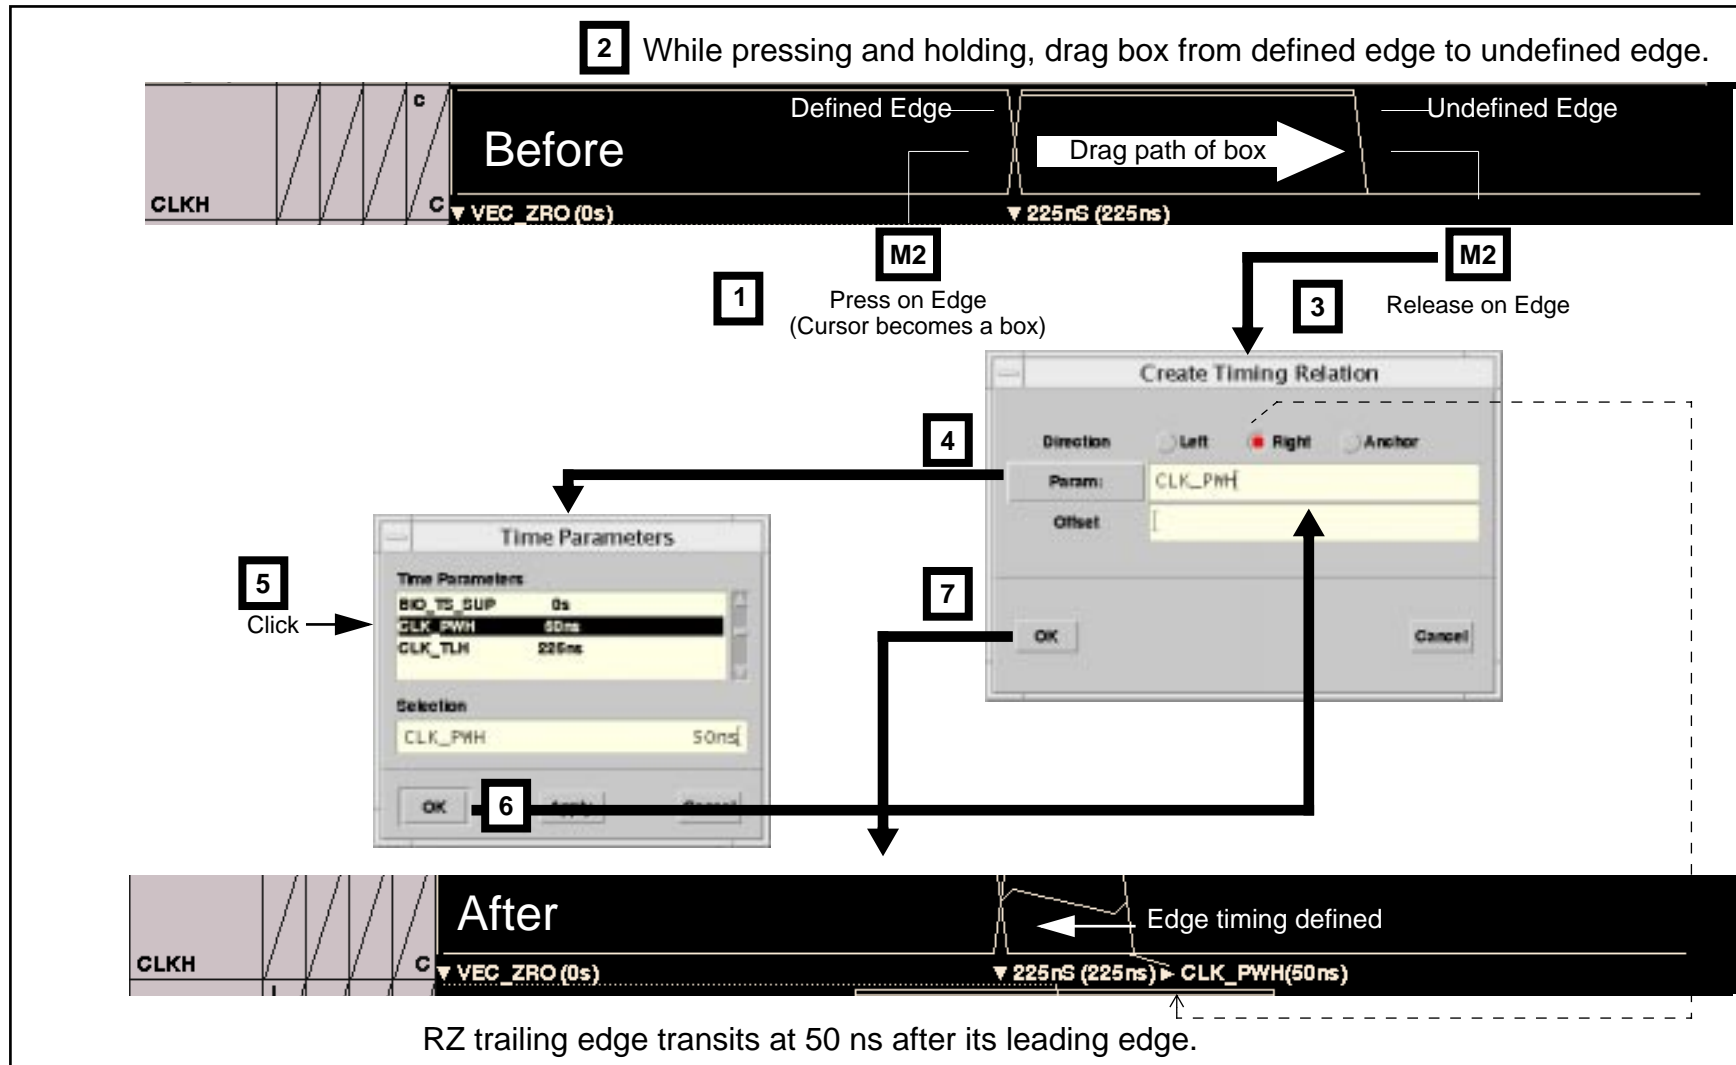
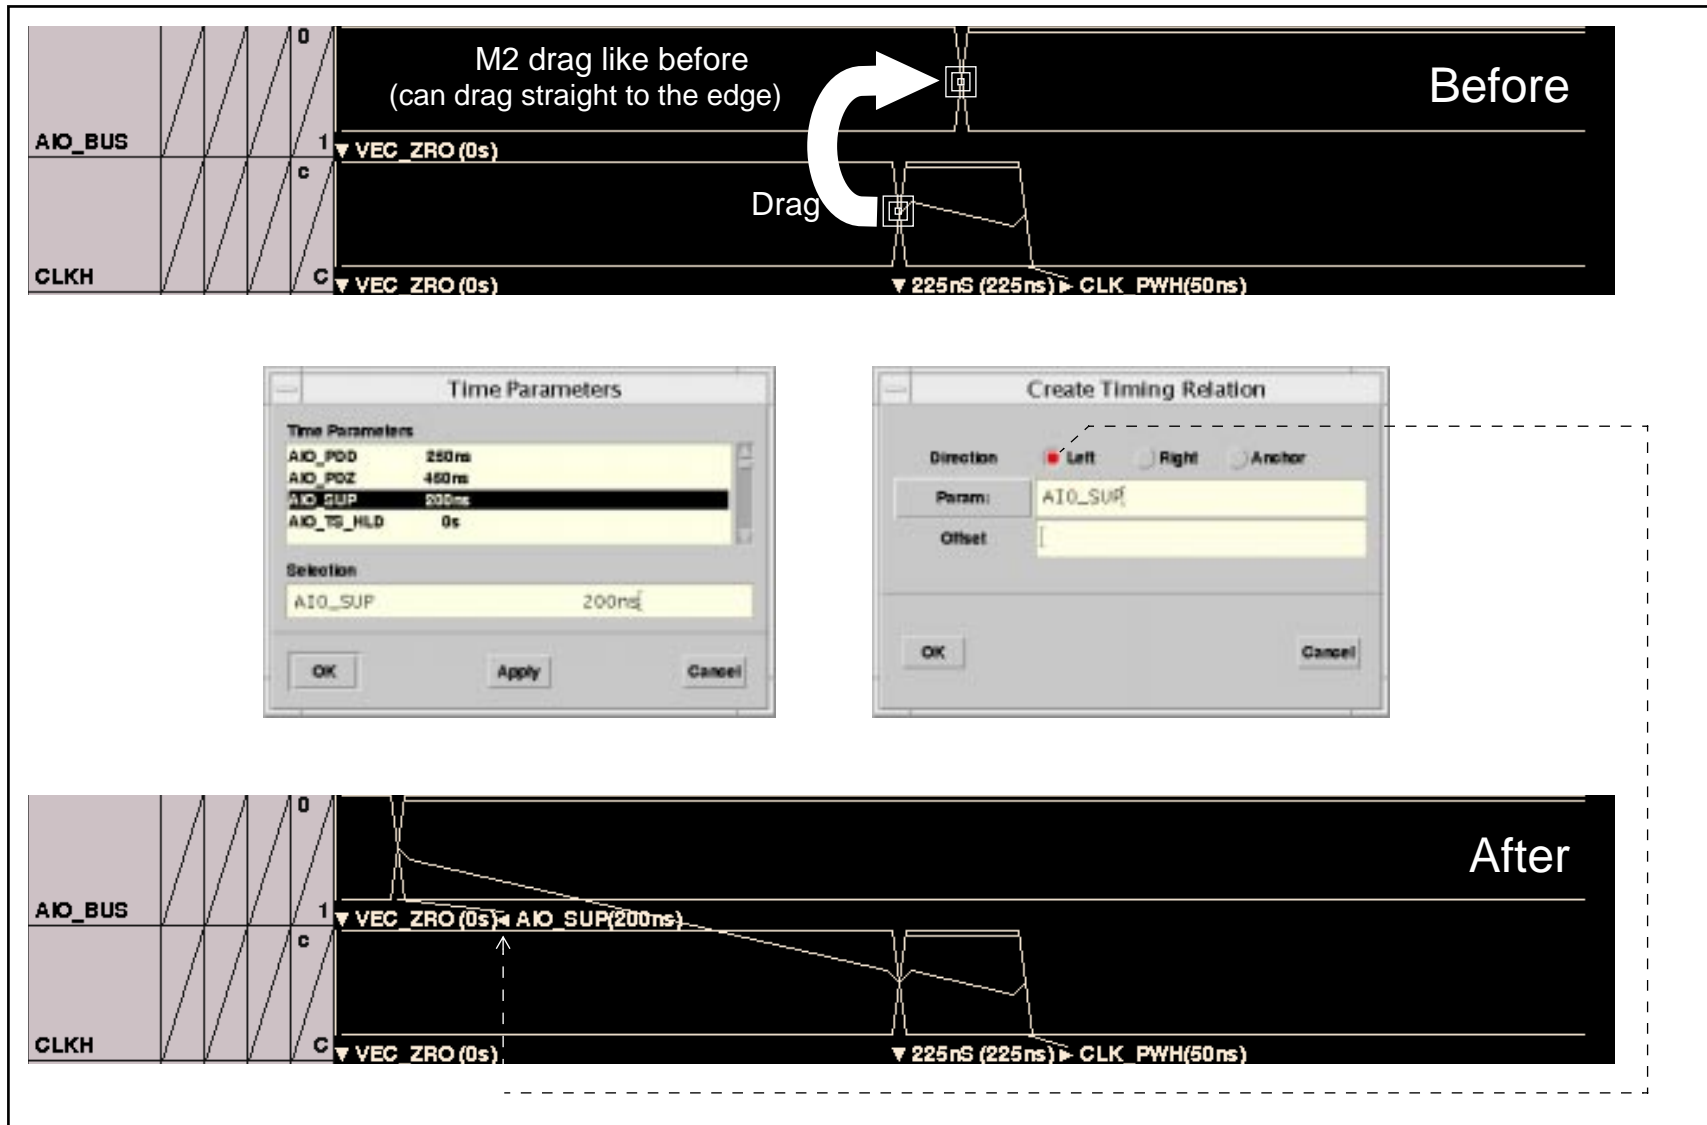

Figure 2.36: Attaching Relative Timing by Using a Spec Parameter
Figure 2.37: Second Example: Attaching Relative Timing by Using a Spec Parameter
- h. Click M1 on OK button in Create Timing Relation window to complete this definition. Notice the edge just defined has arrow pointing to the right just to the left of the timing parameter name selected shown in Figure 2.36. Another similar example is shown in Figure 2.37.